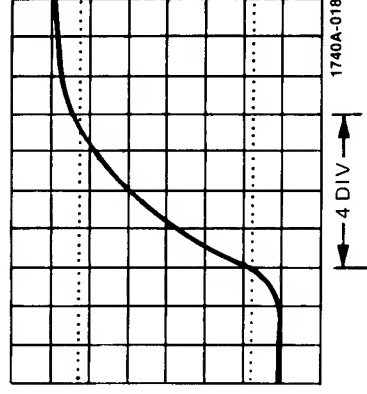

Figure 15. Rise Time Measurement
**Example:** Assume the number of divisions between the 10% and 90% points is four and the MAIN TIME/DIV setting is  $2 \mu\text{SEC}$  (see figure 15).